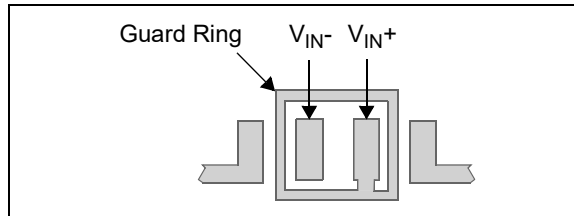

FIGURE 4-4: Example Guard Ring Layout.
The easiest way to reduce surface leakage is to use a guard ring around sensitive pins (or traces). The guard ring is biased at the same voltage as the sensitive pin. Figure 4-4 is an example of this type of layout.
1. Inverting Amplifiers (Figure 4-4) and Trans-Impedance Gain Amplifiers (convert current to voltage, such as photo detectors).